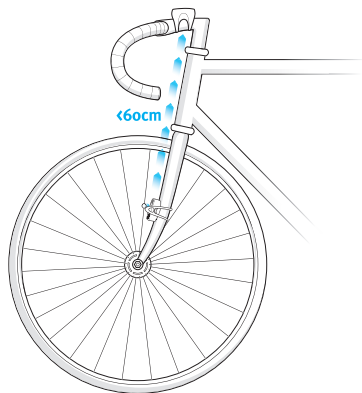

Fig 3.5
1. Choose a suitable location on your forks that will enable a good line of sight between the transmitter up to the main unit with minimal physical obstructions. (Fig 3.5)